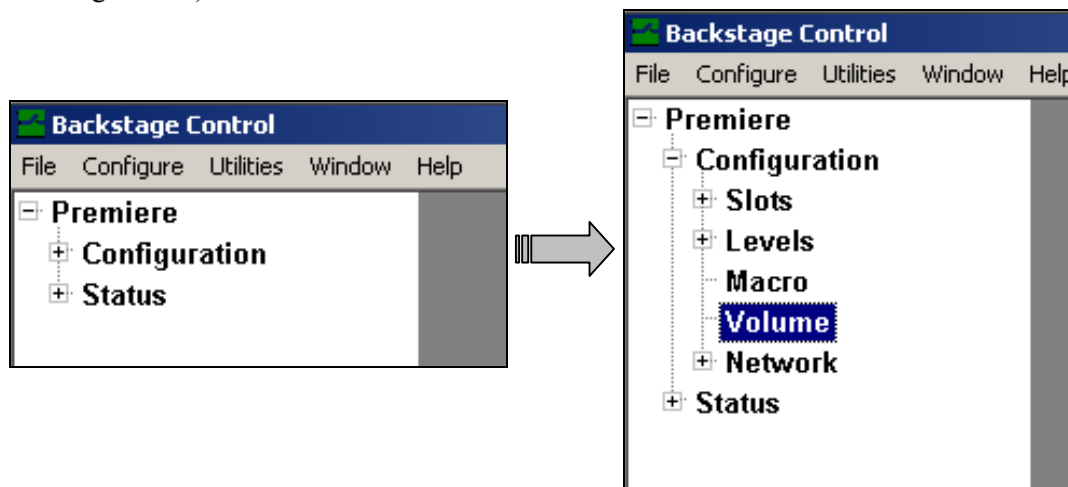

FIGURE 103: Expanding The Root Directory For Volume (Audio)
- 1) In the tree window, access the Volume directory by expanding the Premiere and Configuration root directories by clicking on the x-box (☒) adjacent to each directory (see Figure 103).